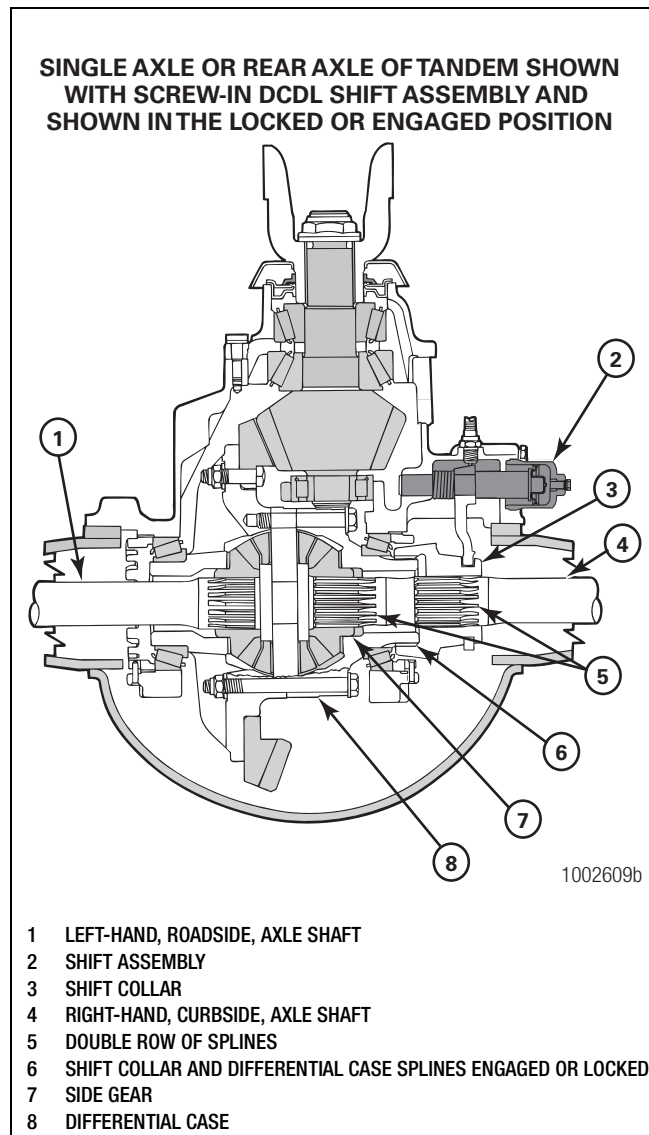

Figure 11.5
5. Install the axle shaft(s) indicated in Table AJ. Axle shafts with a DCDL have a double row of splines that engage with the splines of the side gear and shift collar in the differential case. Figure 11.5. Continue with Step 6.